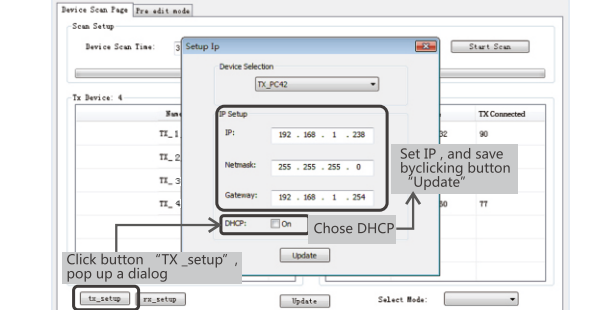

Figure 2
4.1.3 Then, connect mobile phone/tablet and the video matrix controller via hotspot "MATRIX" with each other(as figure 1, the wifi password is 12345678). At this time, open the downloaded APP "matrix control, will enter to the interface as figure 2, and APP control starts.
If IP setting is really needed, please follow up the operation as Figure 2 (here make an example of TX's IP setting only, RX's setting is the same as TX's)